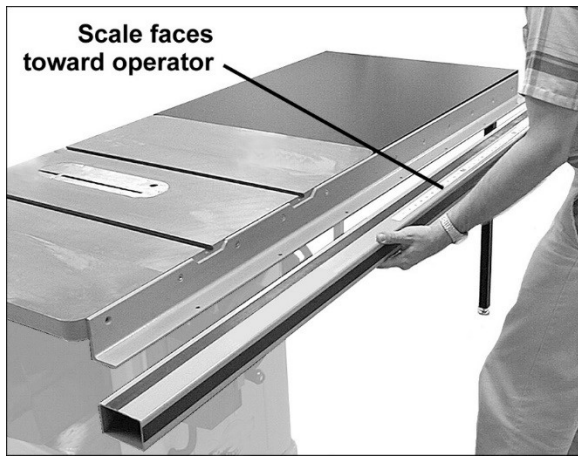

Figure 6-12
- The guide tube mounts to front rail with scale facing toward operator (Figure 6-12). Align holes in bottom of guide tube with holes in front rail. When properly positioned the guide tube should extend about 6-inches beyond left end of front rail.